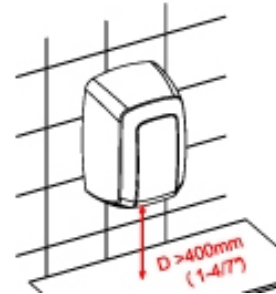

Figure 13
**NOTE:** contemplate a minimum distance of 15.80" (400 mm) away from ledges, marble tops or wash basins (Figure 13). Avoid as much as possible the presence of reflecting surfaces within the area of the hand dryer's IR sensor.